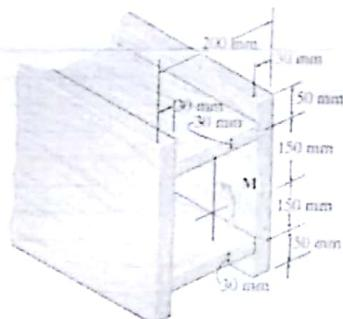

Fig. 3
3. If the beam is subjected to a bending moment of determine the maximum bending stress of  $M = 10 \text{ kNm}$  in the beam. [Fig. 3]